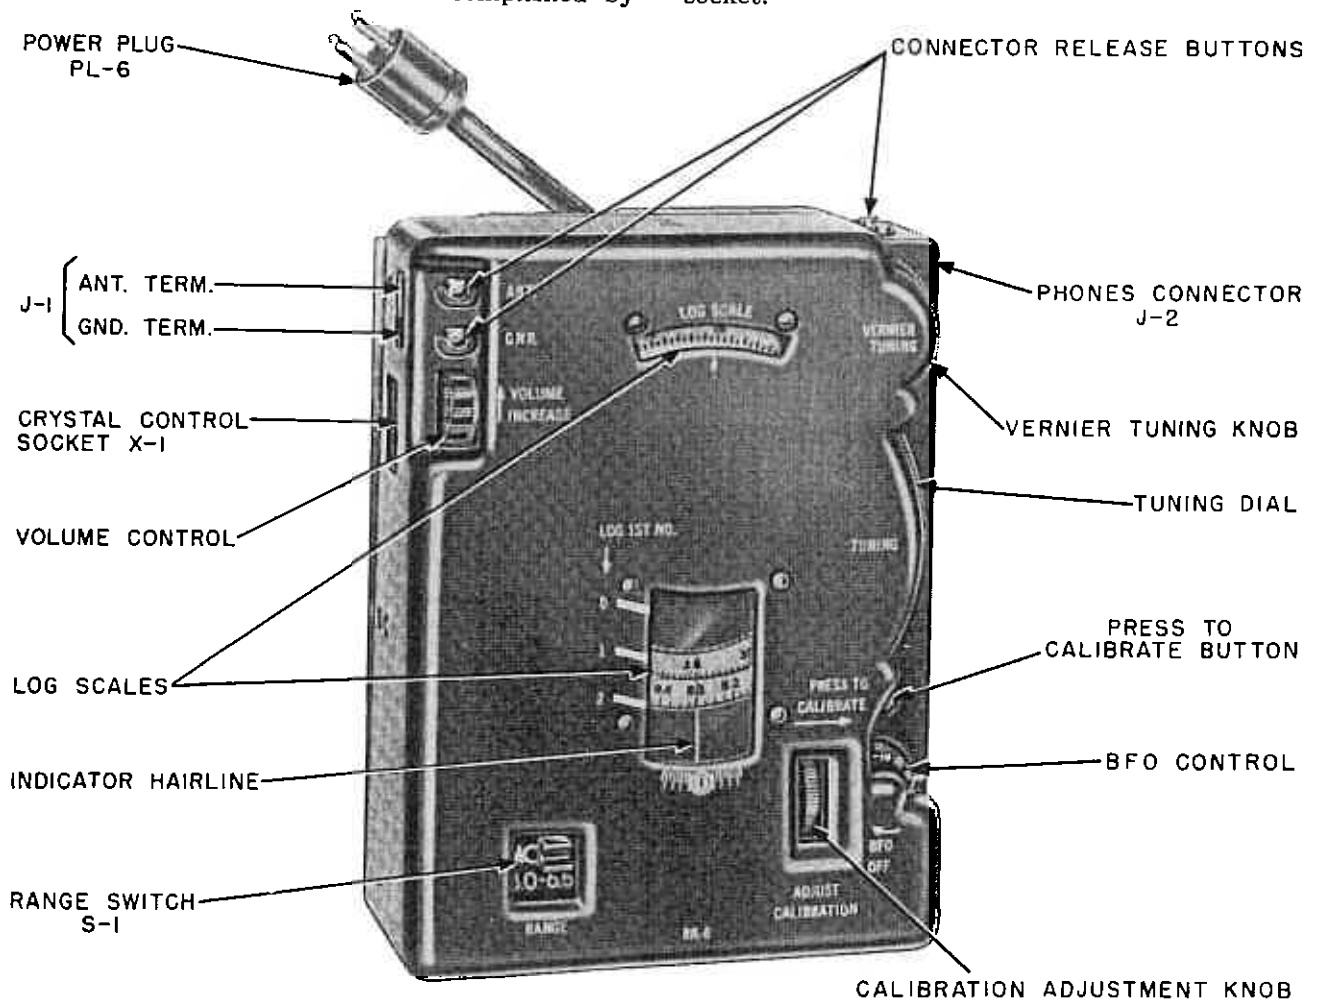

Figure 11. Receiver RR-6 showing control locations.
18. CONTROLS AND FUNCTIONS—(See Figure 11)
(5) Turn ADJUST CALIBRATION (Figure 11) until the hairline coincides with the calibration point on the dial scale.
b. Set RANGE switch (Figure 11) for the proper frequency band:
- (1) Blue—Low band: 3—6.5 mc
- (2) Red—High band: 6.5—15 mc
a. Plug the specified crystal in CRYSTAL CONTROL socket (Figure 11).